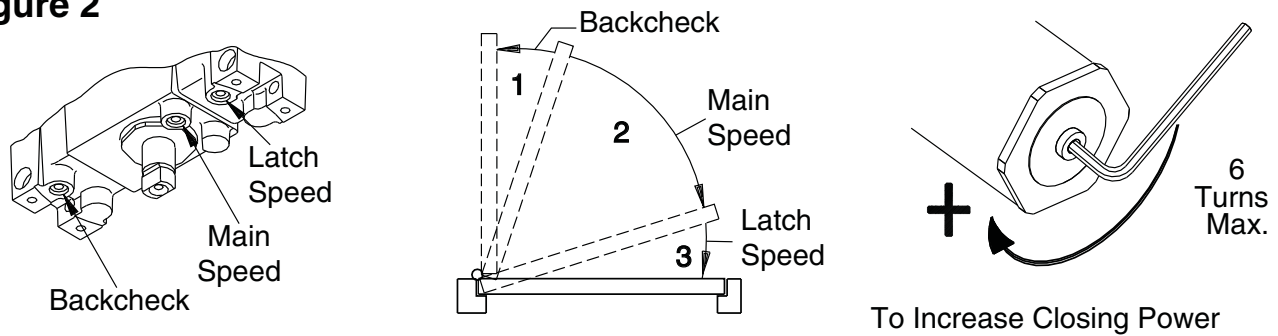

Figure 3
1a Closer Information Closer is handed at the factory. The hand of the closer must match the hand of the door (see the door handing diagram below).	1d Wiring Connections Make the wiring connections at this time. Connect the two black wires to the input voltage (polarity is not important). The green wire MUST be connected to an earth ground (see Figures 3 & 4 on page 3).
1c Before beginning this step, determine which type of wiring option will be used, and follow the corresponding instructions: Concealed Wiring: see Figure 3 on page 3. a. Prepare the frame per the proper template on page 4. Be sure all the holes are dimensioned correctly before drilling and tapping. b. Assemble the conduit connector provided to the flexible conduit, then attach to the hole in the mounting plate. c. Secure the mounting plate to the frame with the screws provided. Surface Wiring: see Figure 4 on page 3. ① NOTE: Remove the knockout in the top of the cover. a. Prepare the frame per the proper template on page 4. Be sure all the holes are dimensioned correctly before drilling and tapping. b. Secure the mounting plate to the frame with the screws provided. c. Attach the surface run 1/2" EMT conduit to the hole in the bracket on the mounting plate. Be sure the conduit is securely attached to the bracket.	1f Track Roller Insert the track roller into the track, and end caps into both ends of the track. Place track plugs in the track where needed. Using the fasteners provided, mount the track on the door per the template on page 4. 1g Set Screw Loosen the set screw in the end of the arm, open the door approximately 30°, pull the arm over the top of the door and connect to the track roller. Tighten the set screw firmly. 1h Electric Checkout Regulate the closer and perform an electrical checkout, as instructed on page 2, before installing the closer cover. 1i Disengage the Swing Free Arm To disengage the swing-free action of the arm, insert the locking screw (stored in the tube portion of the arm) into the shaft end of the arm, and tighten securely.